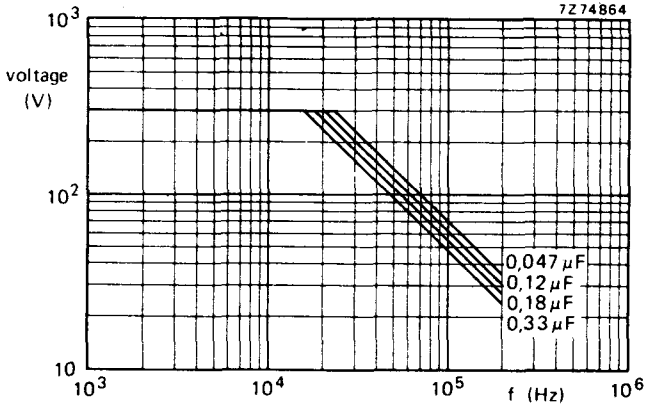

Fig. 3 Maximum permissible r.m.s. value of sinusoidal voltages as a function of frequency at $T_{amb} \leq 70^\circ C$, for 630 V version.
* At $T_{amb} \leq 70^\circ C$ the maximum permissible sinusoidal voltage can be found in Figs 3 to 6.